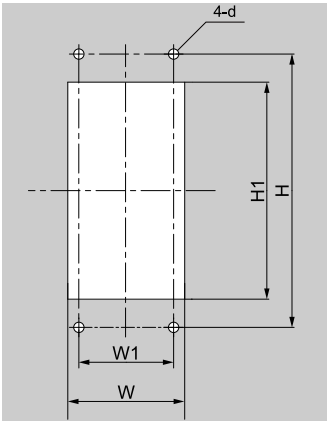

Figure 2.13 Panel Cut-Out Dimensions to Attach Inside Control Panel
- 1. Use the panel cut-out dimensions in Figure 2.13 and Table 2.4 to cut an opening in the control panel for the keypad.